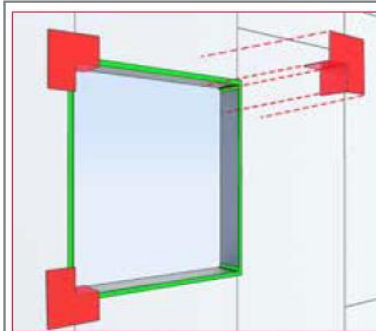
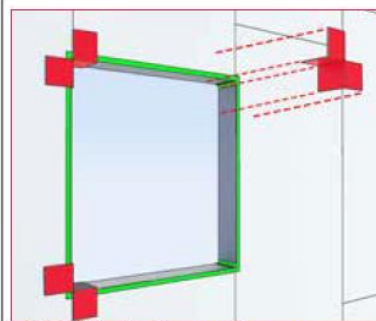

Fig 7a: Wraptite Corners used in corners.
Fig.8a: Wraptite Tape used in corners.
3. Finish door and window detailing by using either Wraptite Corners (Figs 7a,b) or a combination of Wraptite Tape and Wraptite LF (Figs 8a-d)